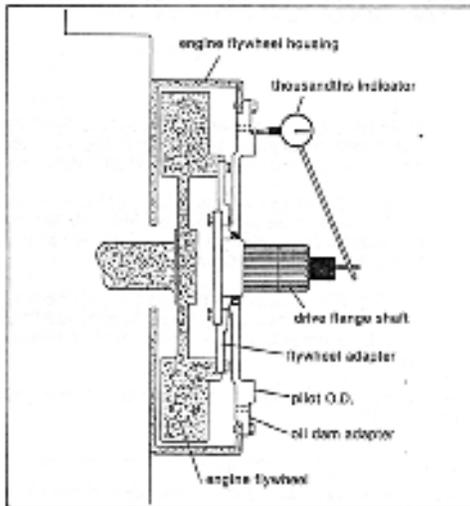

Figure 4. Dial Indicating Oil Dam Adapter Pilot O.D.
9. Dial indicate oil dam pilot O.D. as shown in figure 4. Record reading. Total indicator reading must not exceed .007 in.